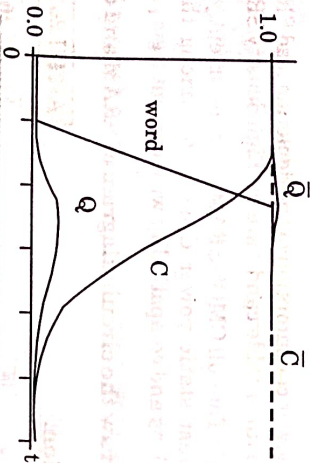

Fig. 4.4.2. Read operation of SRAM cell.
5. Waveforms for the read operation are shown in Fig. 4.4.2 as 0 is read onto Q .